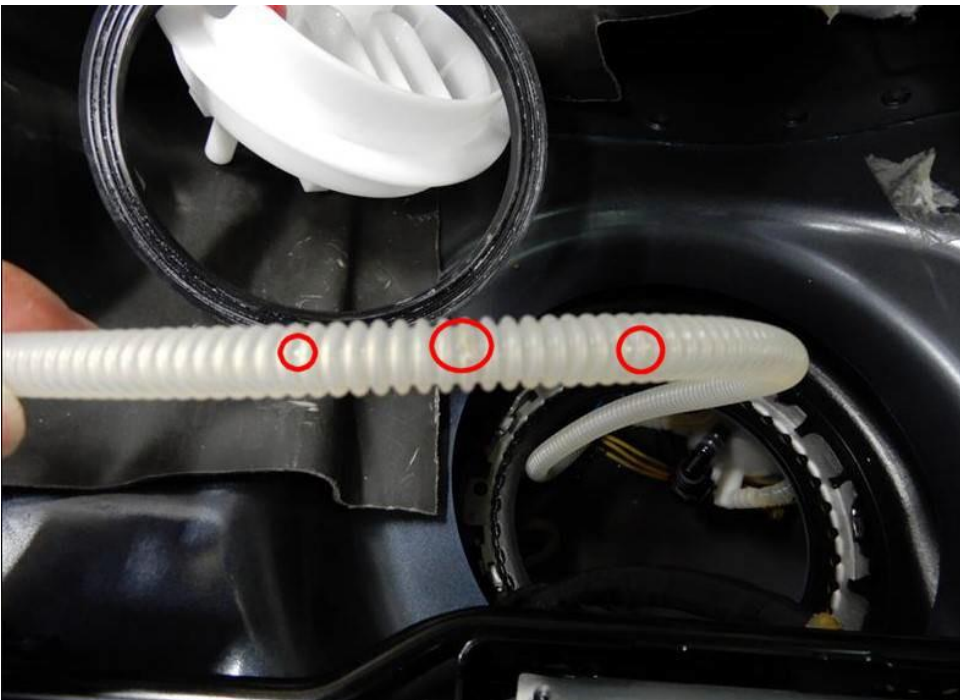

Figure 1
- Figure 1 shows an example of a fuel tank internal hose with pin holes (circled)